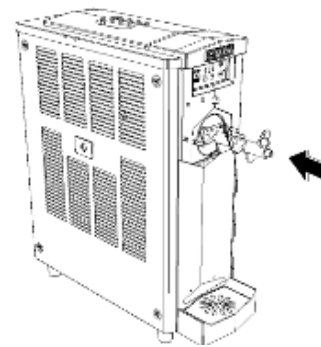

Fig. 50
- Once assembled, insert the beater carefully into the cylinder making sure that the rear shank fits perfectly in its seat within the cylinder (Fig. 50).